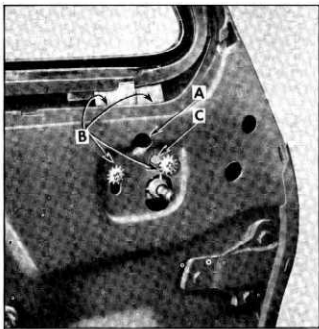

Fig. 9—Ventilator Regulator
3. Disconnect the ventilator lower pivot shaft from regulator mechanism by removing cap screw at "A" (fig. 9).